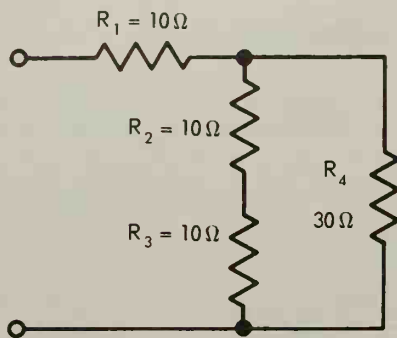
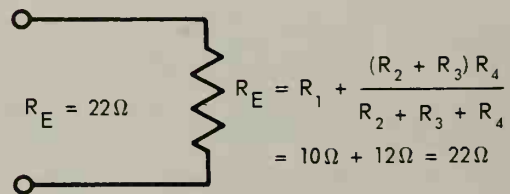

Fig. 4-23. This complex circuit is to be reduced to R_E .
Fig. 4-26. Remaining series resistances are added to find R_E .
In Fig. 4-23, a combination circuit is schematically drawn. Follow each step as its total resistance is computed.
4. The circuit is redrawn in Fig. 4-26 with only one resistor of $22\ \Omega$, which is the equivalent of the circuit in Fig. 4-23. The power source "sees" a load of 22 ohms.